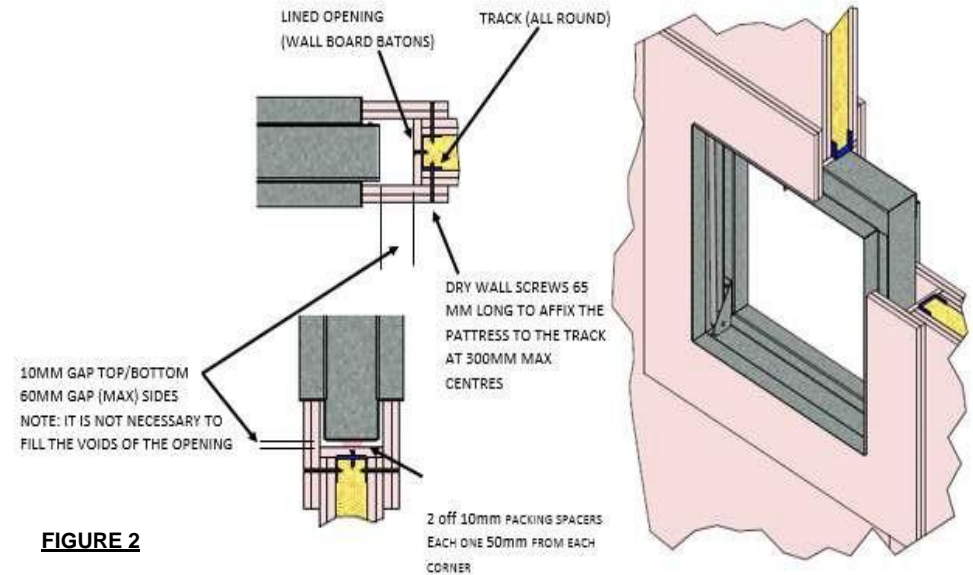

FIGURE 2
5.8.1 The opening must be 'lined out' 10mm (-0+5mm) clearance top and bottom and 60mm maximum per side. (see fig 2).
6 Dry wall – Pattress Fit and Cleated Damper – Fig. 2